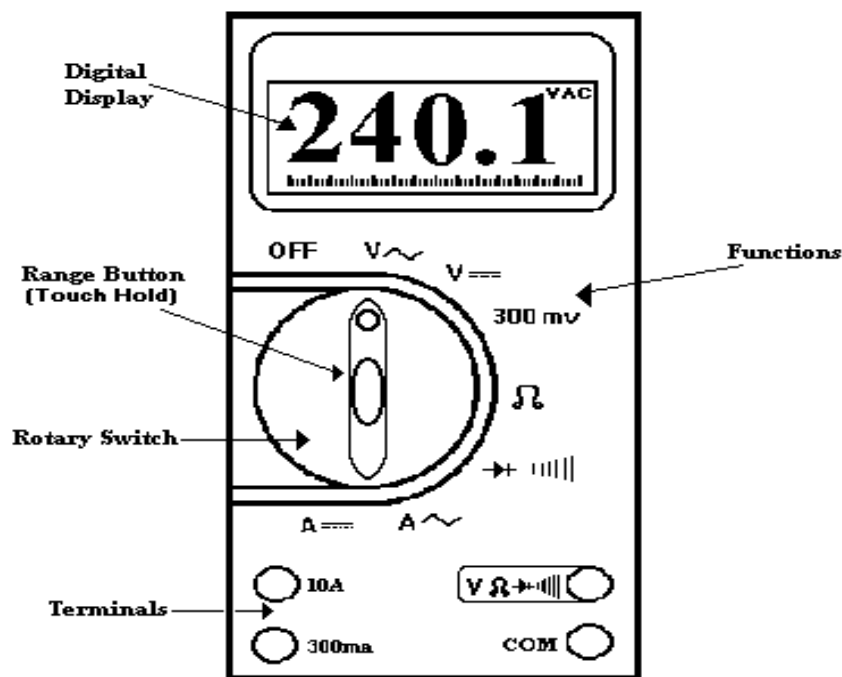

Figure 4, Fluke 77 Digital Multimeter
- **Fluke 77.** The Fluke 77 is a digital multimeter. Figure 4 illustrates the different functions on the meter.